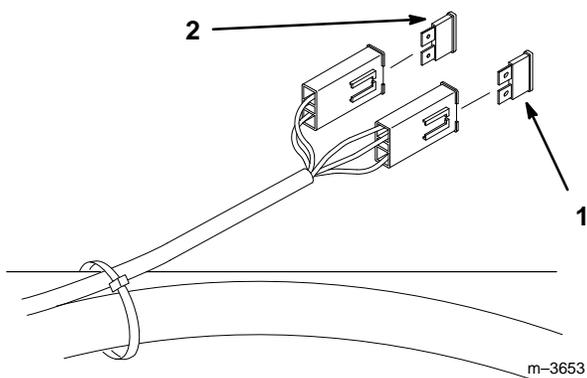

Figure 42
1. Raise the seat to gain access to fuse holder (Fig. 42).
2. To replace fuses pull out on the fuse to remove it (Fig. 42).